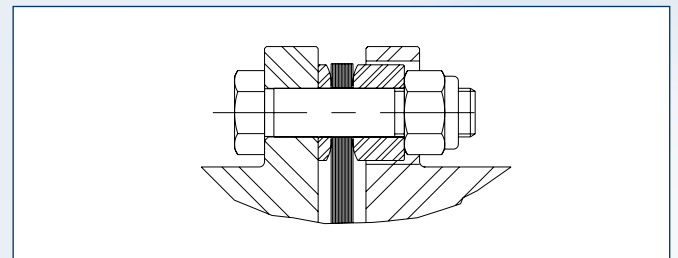

Fig. 8: G series Hardware Arrangement
1. Once the hubs are aligned in the axial, angular and parallel directions, install the disc pack and sleeve. Figures 8 and 9 show the hardware orientation for each coupling type.